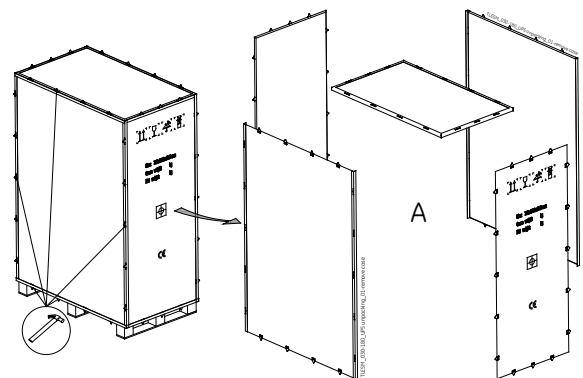

Fig. 4.5.1-2 Remove the wooden case
5. Remove the 2 wooden ramps "B", which will be used as a ramp and position them as shown in *Fig 4.5.1-4*.